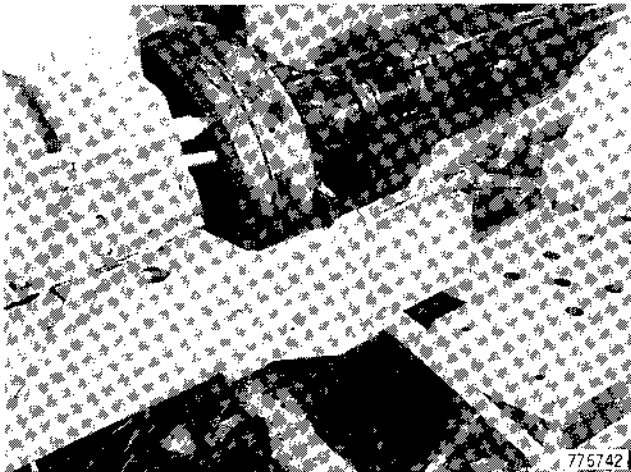

Figure 145
18. Install the remaining cap screws that hold the front and rear housings together, Figure 145.